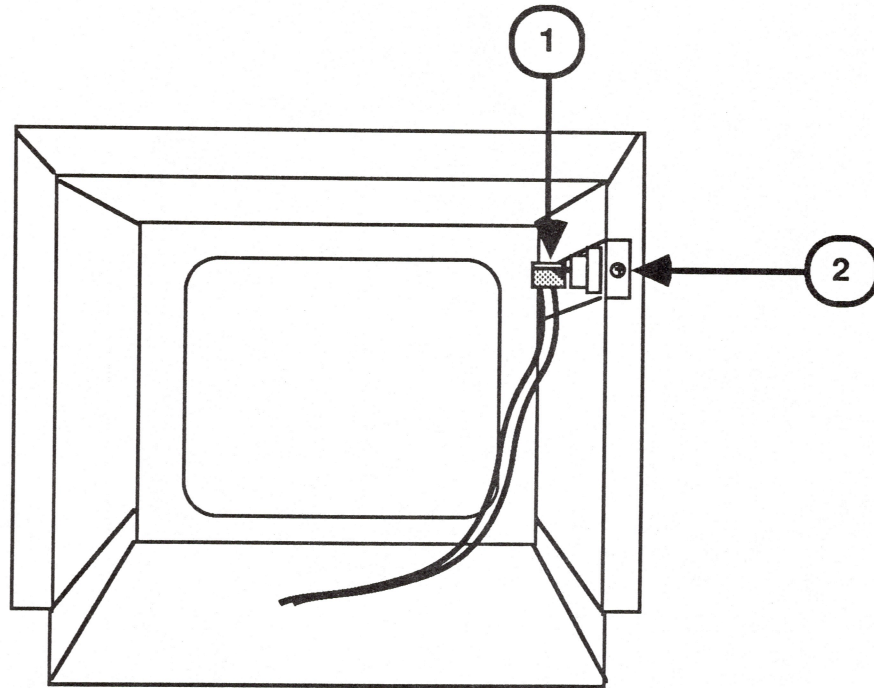

FIGURE 22
4. Locate the on/off switch (Figure 22, #1) inside the rear cover. It is mounted on a plastic bracket which is attached to the side of the rear cover.
5. Remove the screw (Figure 22, #2) which secures the plastic bracket to the rear cover.
3. Replace the screw (Figure 22, #2) that secures the bracket to the inside of the rear cover.